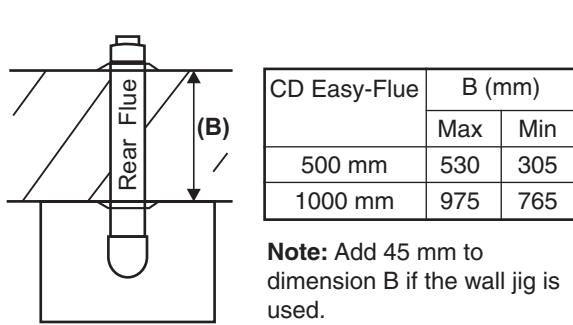

Fig. 5.5
## 5.6 FIT THE FLUE - Figs. 5.5 and 5.6
- When the flue length required is more than the maximum stated in Section 5.6, paragraph 1, refer to the table below and Figs 5.5 and 5.6.